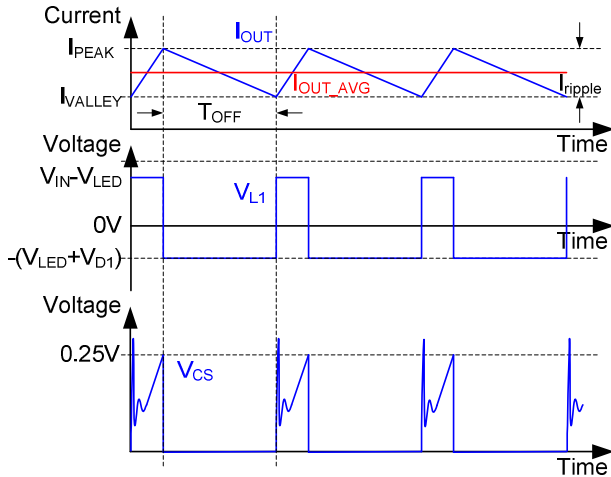

Figure-5 The waveforms of  $V_{CS}$ ,  $V_{L1}$  and  $I_{OUT}$  that shown in the Figure-1.
GR8210 operates with the peak current sensing and the constant off time. The peak current sensing and the line voltage compensation align the peaks of  $V_{CS}$  identically to determine the same  $I_{PEAK}$  that shown in the Figure-5. The  $I_{VALLEY}$  was determined by the  $T_{OFF}$ . GR8210 provides an off time setting function via connect a resistor from RT to GND. A simple way is connect RT to VCC directly to use the default off time that the value is approximately 9.3μs.
The (2) and (3) were generated according to the Figure-5. They usually used to determine the inductance of the power inductor.
Where, the  $I_{OUT}$  is output current that user defined, the  $K$ . is the percentage of  $I_{OUT}$  to estimate the worse case and the value usually is range of 20%~40%. Beside, the maximum rate current and saturation current of the inductor must greater than the  $I_{PEAK}$  that shown in the Figure-5.
Two specifications of freewheel diode must be considered, the maximum reverse voltage must be greater than maximum voltage across the diode. The average rectified current also must be greater than  $I_{PEAK}$  that shown in the Figure-5. The ultra fast diode is recommended to use as the freewheel diode.